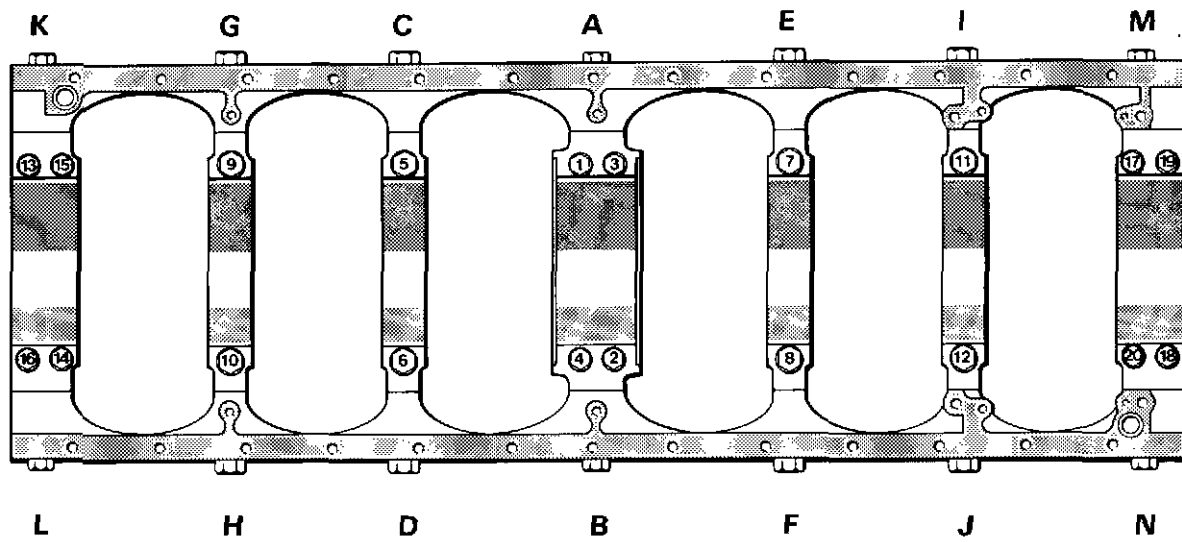

Fig. 5 Main bearing tightening sequence
- 11 Tighten all the main setbolts in sequence, (fig. 5), in steps of 50 Nm (37 lbf.ft.), until a torque loading of 177 Nm (130 lbf.ft.) is achieved. At this stage, the front, centre and rear main bearing cap setbolts are fully tightened.